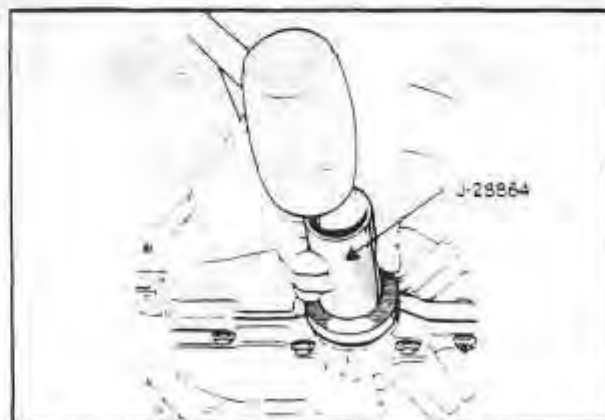

Fig. 85
4. Install the new torque converter seal in the housing using Tool J28864. *Fig. 85*